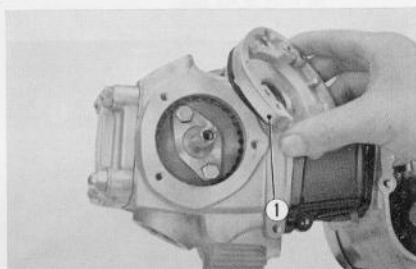

Fig. 3.15 Removing the point base ① Point base
① Contact breaker assembly ② Lead wire
7. Remove the point base ① by taking off the three mounting screws. (Fig. 3.15)